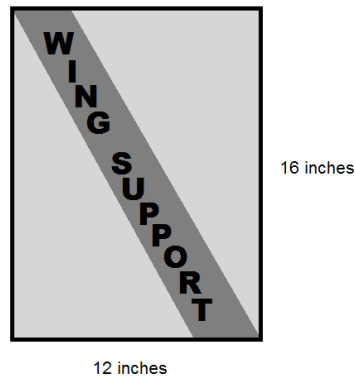

Figure 12
- B. The size of each may not exceed 12x16 inches dimensionally in size per piece. Refer to Figure 12.